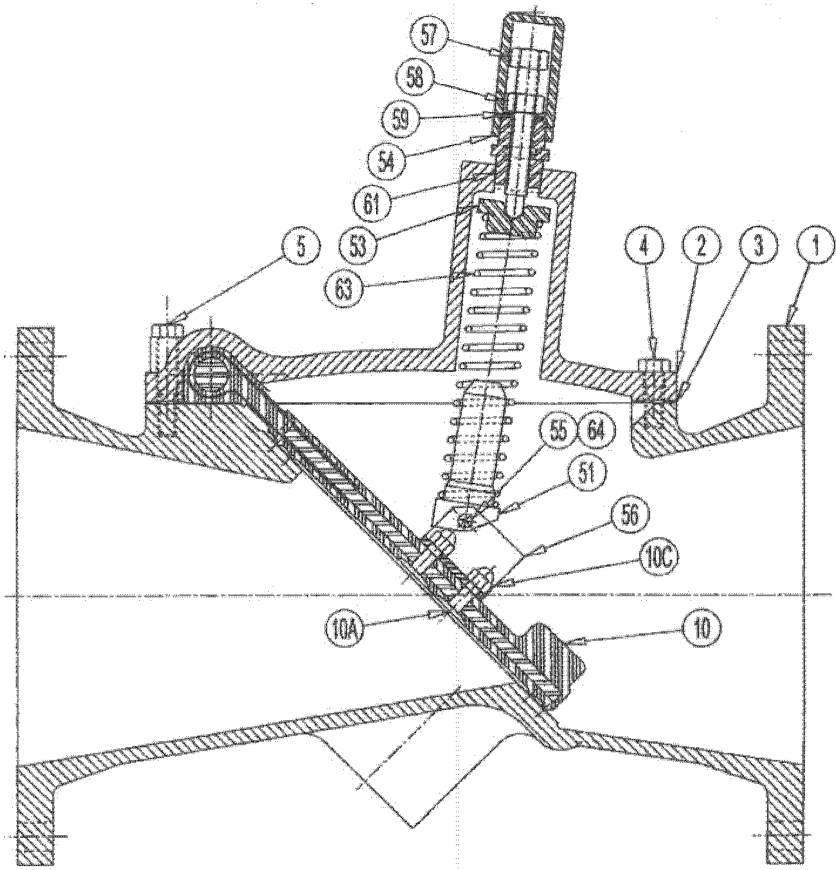

Figure 6 – Spring Return Attachment
Remove Spring Cover (54), See Figure 6.
1. Loosen Adjusting Screw Lock Nut (58), and then turn Spring Adjusting Screw (57) clockwise. This will increase the compressive load on the spring (63), as well as apply more pressure on the flapper to cause it to close faster and reduce slam.
1. Remove Spring Cover (54), see figure 6.
2. Loosen Adjusting Screw Lock Nut (58), and then turn Spring Adjusting Screw (57) counterclockwise. This will decrease the pressure of the flapper-hence, minimize head loss and increase flow rate.
For periodic inspection of the rubber flapper and the body seat surface, the following procedures may be taken: Refer to Figure 6 for details and parts.